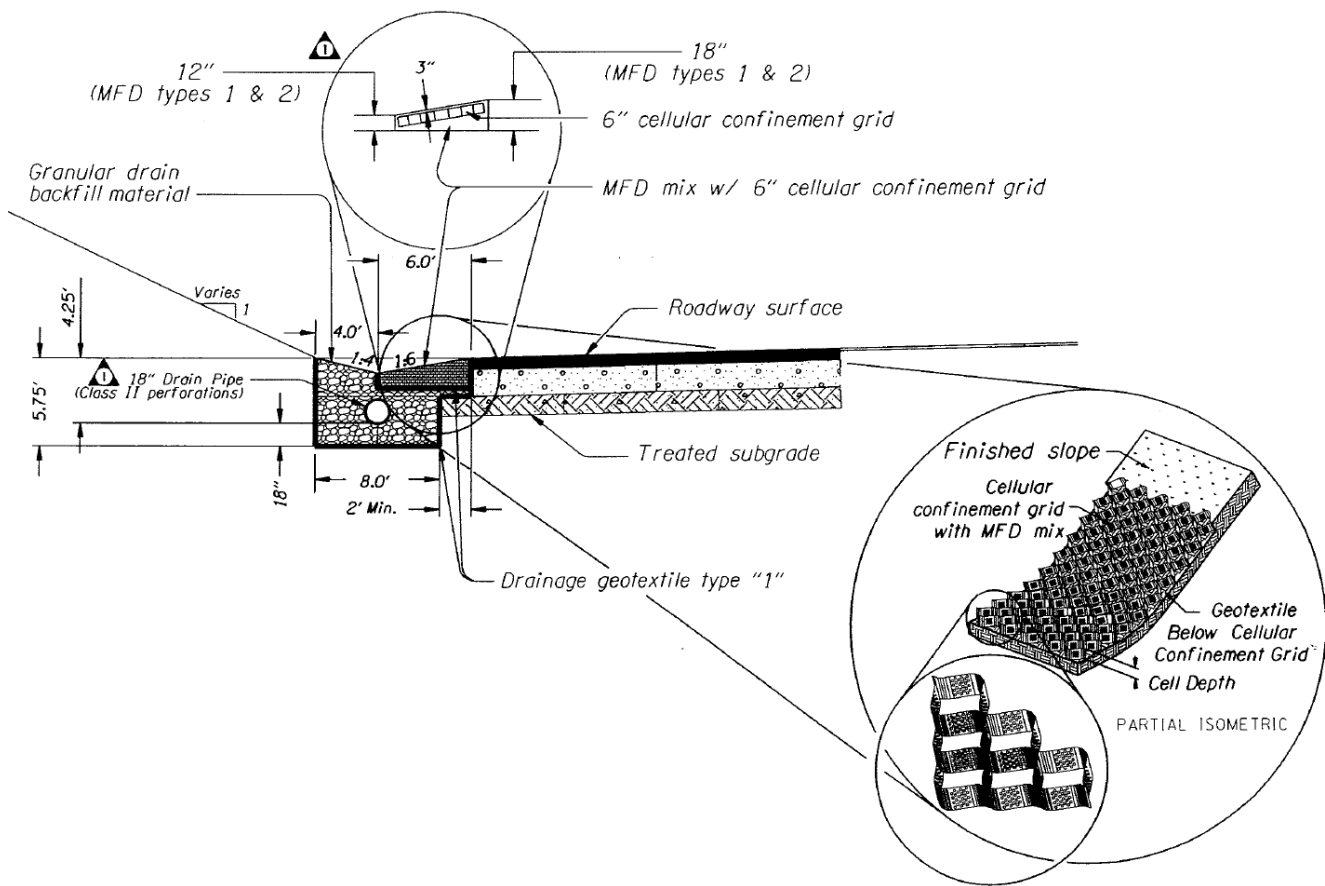
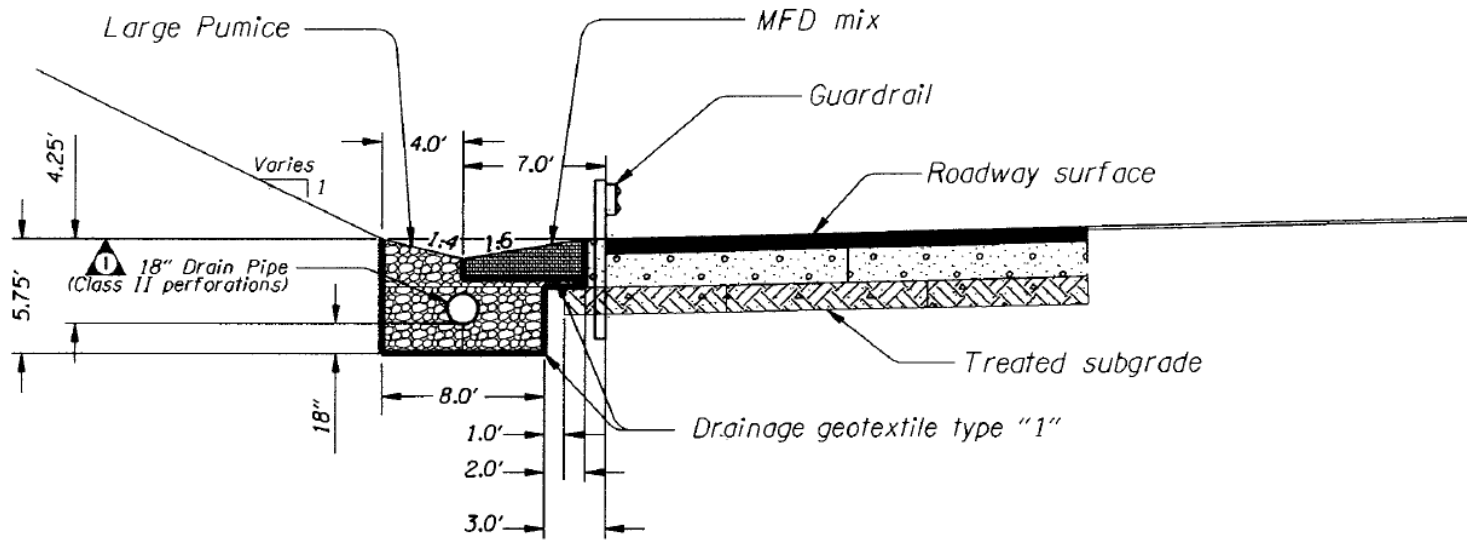

Figure 4: Type 1 Bioslope with ditch configuration (No vegetated area/zone)
Figure 5: Type 2 Bioslope with ditch configuration (No vegetated area/zone)
**Site Specific Information:** There are three types of bioslopes in this water quality facility. Type 1 (See Figure 4) is 1,647 feet long from mile points 64.06 to 65.36. Type 1 has a cellular confinement grid and no guardrail present. Type 2 (See Figure 5) is 437 feet long and has a guardrail present. It runs from mile points 64.92 to 64.93 for one hundred feet and again from mile points 64.98 to 65.05. Type 3 contains MFD type 2 and 3 and also has a guardrail present. It is 200 feet from mile points 64.94 to 64.97. The water flows to the west through a series of manholes and into the storm drain system. The water then flows into Bronson Creek.